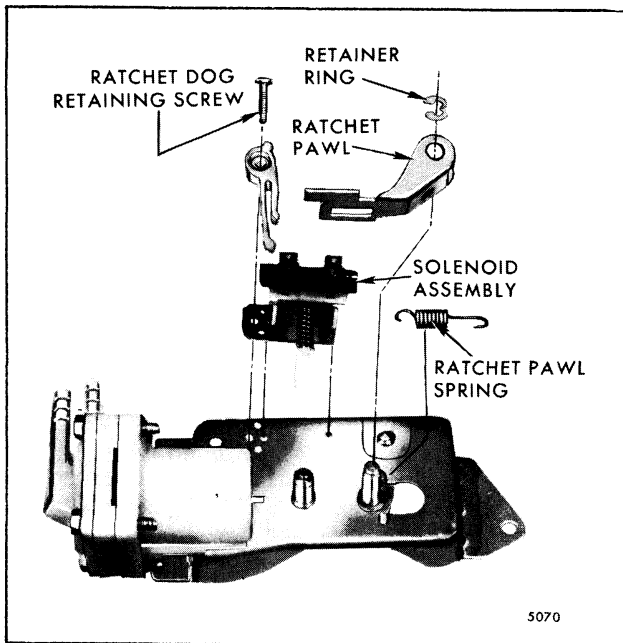

Fig. 2-64-Pump Assembly - Exploded View
2. Separate the ratchet dog from solenoid mounting plate as required (Fig. 2-64).